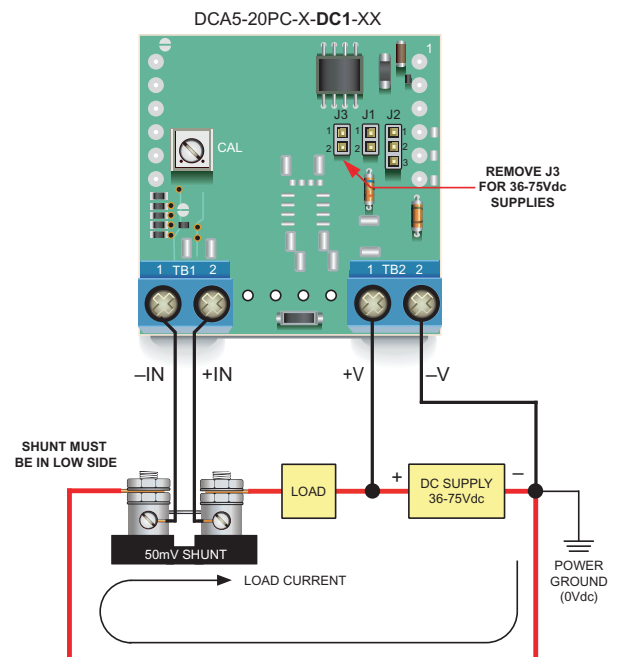

Figure 3. Low-Side Shunt Connections for "-DC1" Models Modified for 36-75Vdc Non-Isolated Power (See Technical Note 5)
- 5. Operation With 36 to 75Vdc Power:** As shipped, all '-DC1' models' rated operating supply range is +5 to +40Vdc. However, '-DC1' models can be user configured for 36 to 75Vdc operation by removing (opening) jumper J3. Please note that this user modification can only be performed on '-DC1' power models. Also, all '-DC1' models – including those that have been modified for 36-75Vdc operation – can only be connected in low-side, grounded-shunt applications. See Figure 3 for detailed wiring information. Any reconfiguration of J3 must be made prior to connecting the power supply and shunt to the ammeter.